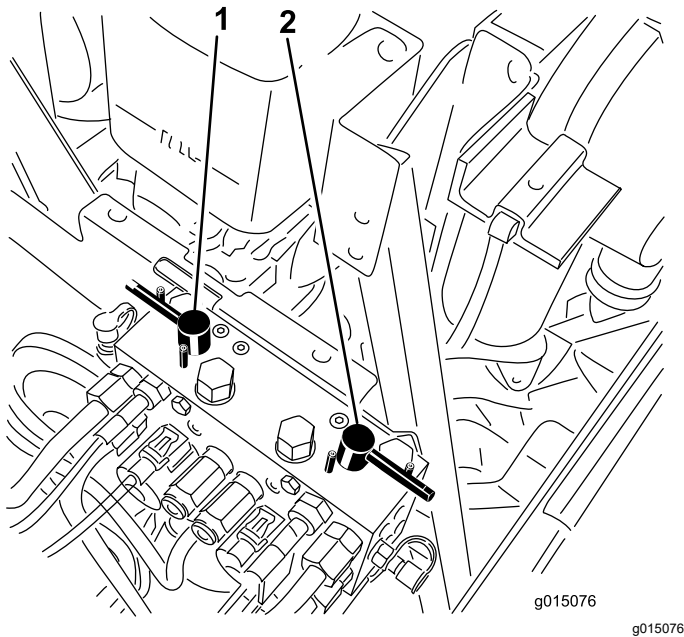

Figure 105
4. Select either front, rear, or both backlap levers to determine which units to backlap (Figure 105).